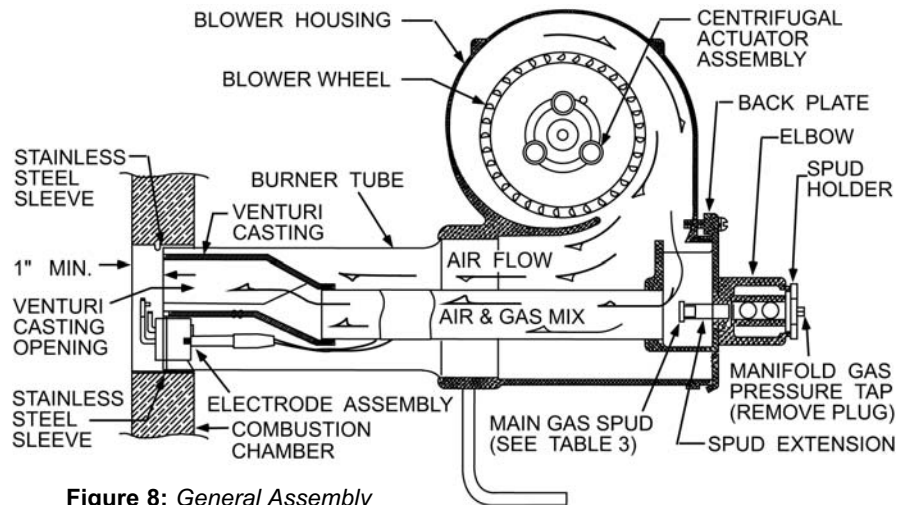

Figure 8: General Assembly
5. If the switch tests OK, check dimension "A" of Figure 8 as follows: